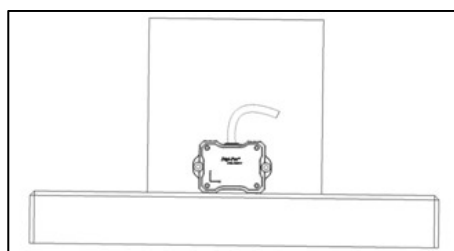

Figure 35. Tilt Sensor Module Position of Calibration Step 1
9. For **DWL5000XY** model, repeat step 6 to step 8 above until Calibration Step 8. Please locate the sensor module in following positions (refer to Figure 30 to Figure 35) respectively.